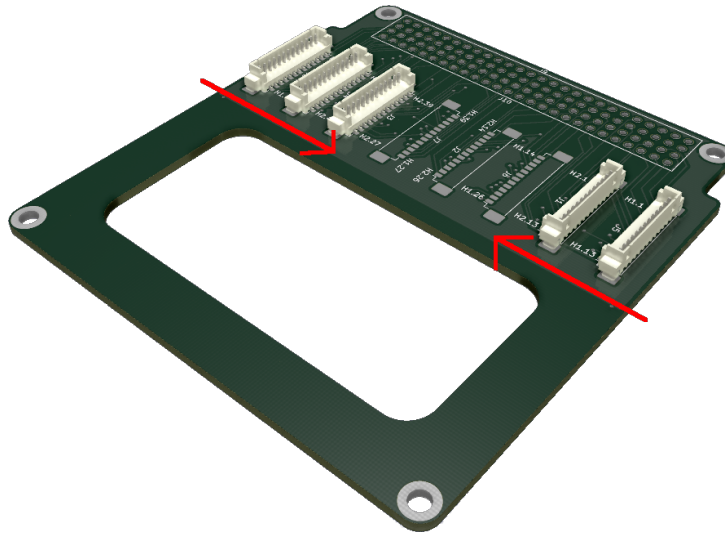

Figure 3.1: Solder sequence of the PicoBlade connectors.
1. Solder the PicoBlade connectors (J1, J2, J3, J4, J5, J6, J7 and J8), beginning with the external connectors and moving to the center of the board, as can be seen in Figure 3.1.